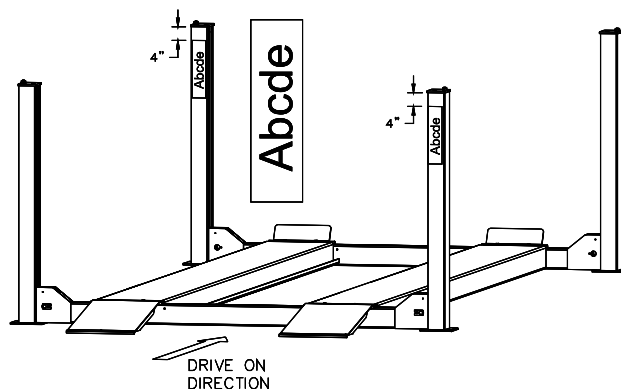

Fig 17 – Decal Placement
- 44) Apply decal 4" from top of columns, **Fig 17**.